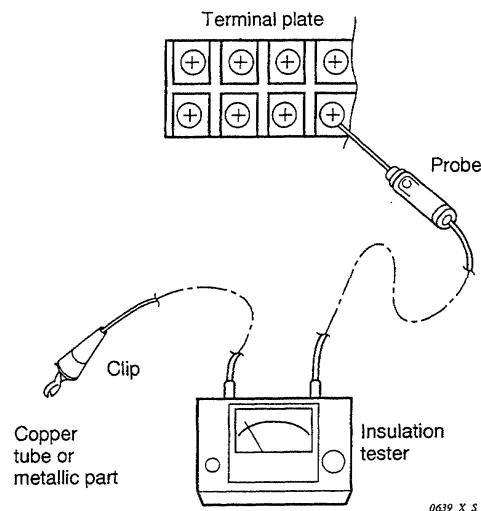

Fig. 6
Clamp an aluminum plate fin or copper tube with the lead clip of the insulation resistance tester and measure the resistance by placing a probe on the terminal plate (Fig. 6)
③ Outdoor Unit
Measure the resistance by placing a probe on the terminal plate in the same manner as explained above ②. (Fig. 6)